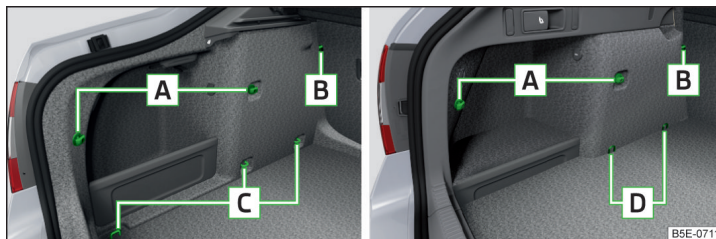
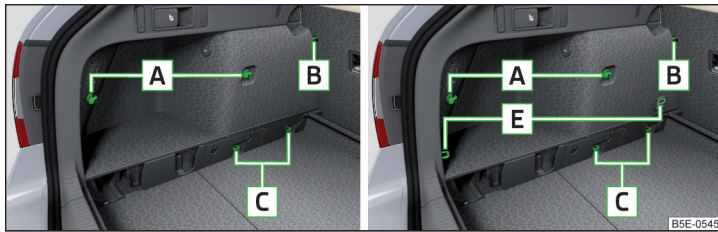
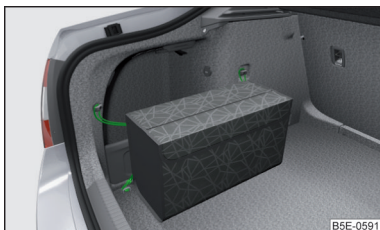

Fig. 126 Fastening elements: Variant 1/variant 2 (G-TEC)
Fig. 127 Fastening elements: Version 3/version 4
Fig. 130
**Overview of the fastening elements** » Fig. 126 and » Fig. 127
If the vehicle is equipped with the variable loading floor and this is in the upper position, then the lashing eyes **E** » Fig. 127 on page 104 can be used for attaching the nets.
On vehicles with lashing eyes **D** » Fig. 126 on page 103 only the cross-bag are attached behind the seats and the floor net (the net can be attached to the rear fasteners **A** » Fig. 126 on page 103 at the rear).
The pocket » Fig. 130 can be secured to the fastening elements **A** and the rear and centre lashing eyes **C** » Fig. 126 on page 103.